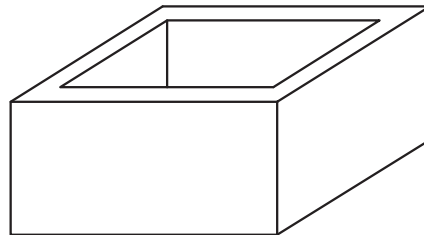

Fig. 5-15
6. Draw a block with a rectangular cavity like the one shown in Fig. 5-15 using the **RECTANG** and **LINE** commands. Save the drawing file as **prb5-6.dwg**.